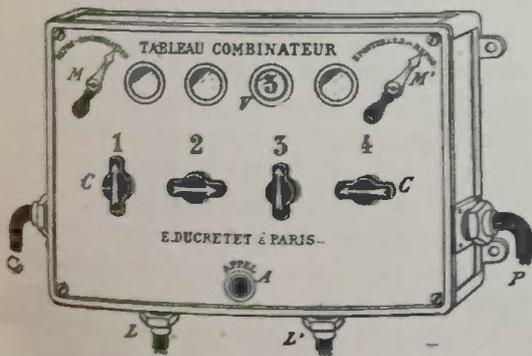
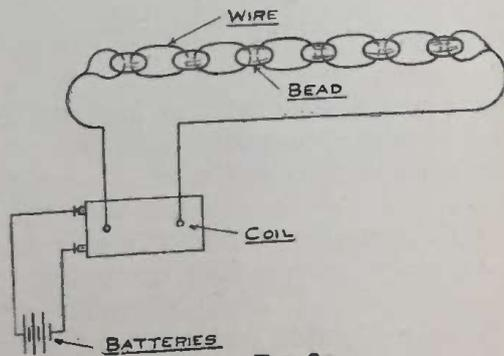

Fig. 1
FIG. 2-
-Fig. 2-
A simpler arrangement is shown in Fig. 2, and in which the results are about the same. Although it must be said it is harder and rather inconvenient for quick adjusting.
myself and a few of my friends on coils up to 4 inches with the same gratifying results. The object in this construction is to get a rapid hammer blow action both to and away from the contact points. This is done by relieving the main spring M in Fig. 1 of part of the weight of armature A by adding an extra spring Ax at end of spring M, and have means to limit its range which is done by placing the extreme end, between two adjustable, solid contacts shown at H and K. When K is so adjusted (at the block F to which it is fastened) by means of adjusting screws G1, G2, armature A is drawn slightly away from core at C. After
The springs of this arrangement are the same as in Fig. 1. S shows a screw or threaded brass rod set in head of the coil and on which are two nuts, Y1 and Y2, corresponding to H and K in Fig. 1. N1 and N2 are lock nuts for nuts Y1 and Y2. For above vibrators the electrical connections are the same as the ordinary vibrator. The additional parts being for mechanical action.
A little experimenting will soon enable one to quickly adjust the above vibrators without any trouble, which when properly done, will be found very adaptable for wireless work. Fig. 2 is to be adjusted in same manner as Fig. 1. As so much depends on the springs, especially spring Ax, which must be stiff and light, it would be useless to try to give further directions for adjusting.
metal case so as not to be affected by moisture. The maneuver is very simple, and to bring any two posts into connection with each other, the operator has only to turn the handles of the switches C, Fig. 1, in the direction facing each other, or in other cases to use the indicators MM'. If the same order is to be sent to several posts from the officer's post, we turn all the handles to the left in the direction of the indicator M. Any of the posts can be used as a central post by first obtaining the proper connection, so that the officer can send orders from any point. A drop-shutter board and electric bell, seen on the right, serves to give the indications to the central post.
Connect the beads as shown in Fig. 2, and start the coil. The spark will jump at every gap in the beads and will show
-FIG. 2-
ing, and construct a switch that will announce the arrival of his victim. Get two pieces of hard wood a foot long and two inches wide, four blocks of wood two inches long and an inch square, an old bed spring and some scraps of sheet brass (fig. 2). This is sufficient material for two switches, one for each end of the fence. As both are made in the same manner, I will describe one only. Nail the two blocks on the top of the fence 10 inches apart. Tack a piece of the sheet brass, two inches by three-quarters, on the top of
Fig. 2 shows a tube which gives a very pretty effect in the dark. It is made of a glass tube about 1/4 inch in diameter, and 6 inches long. Cut a piece of tinfoil 1/8 inch wide and long enough to go the full length of tube when wound in a spiral, each turn being 1 inch apart. Next give the tube a coat of medium thick shel-